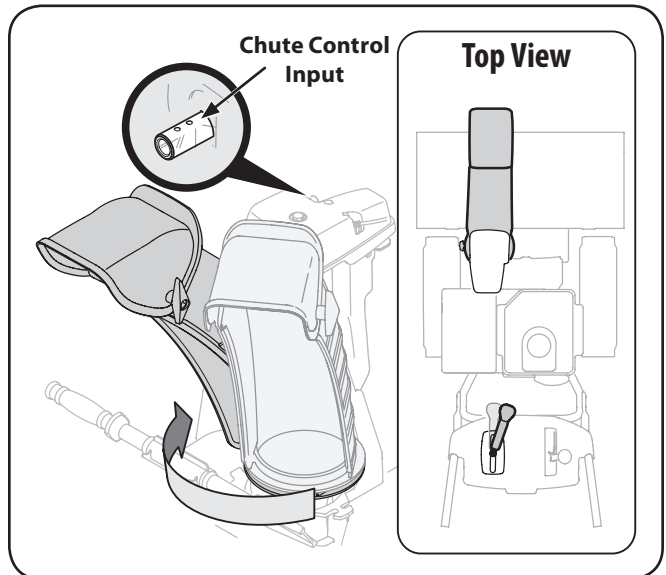

Figure 3-13
4. Squeeze the trigger on the joystick and rotate the chute by hand to face forward. The holes in the chute control input will be facing up. See Figure 3-13.
NOTE: The joystick will be angled slightly to the right at the one o'clock position. See "Top View" in Figure 3-13.